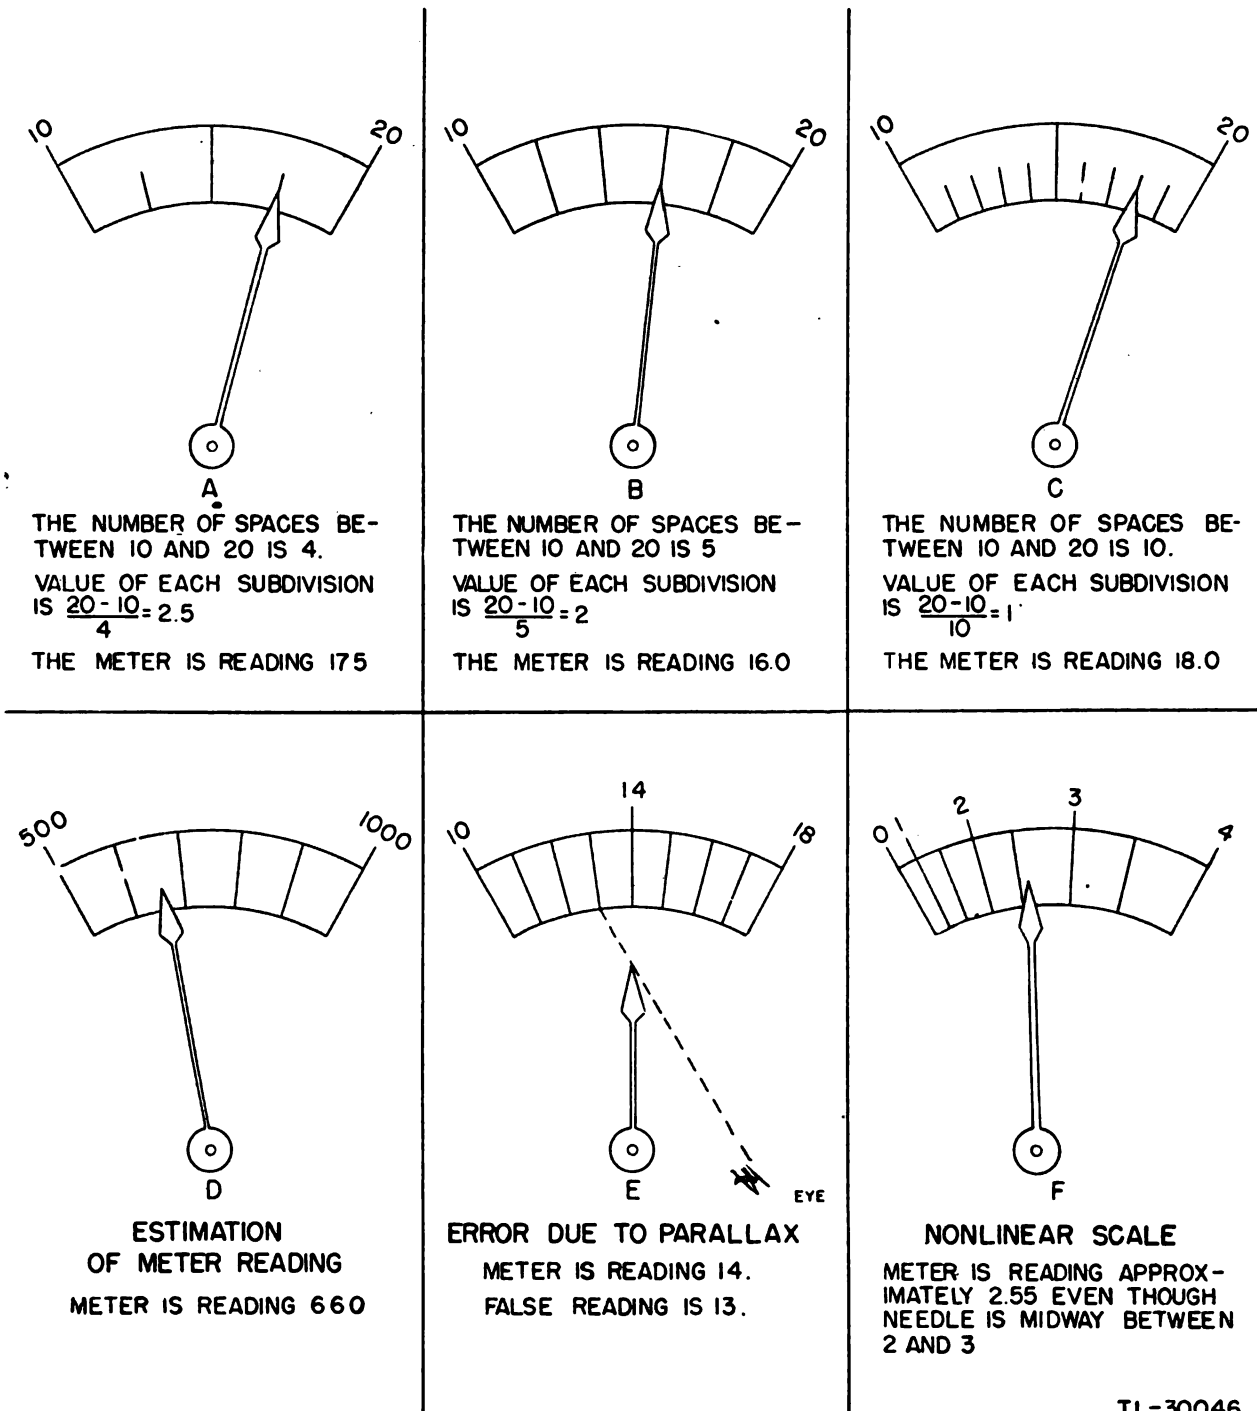

Figure 94. Reading meters.
Reading meters accurately is a matter of common sense plus carefulness (fig. 94). The following rules and cautions will help prevent errors:
*b.* **OBTAINING VALUE OF SUBDIVISION.** Count the divisions of scale space between the two main-numbered graduations on each side of the needle. Divide the numerical difference between the two numbers by the number of divisions of scale space. This process gives the value of each subdivision, as illustrated in figure 94.